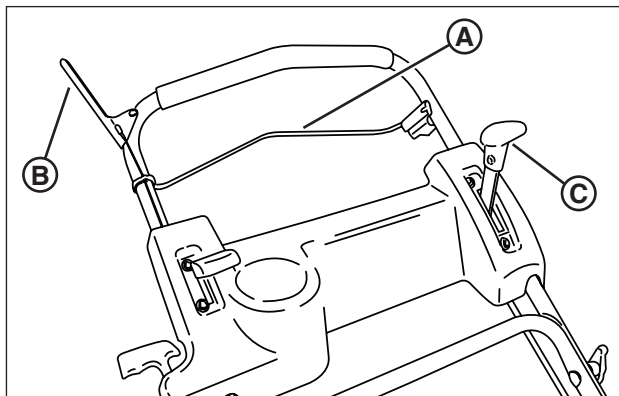

Figure 1: Mower controls
2. Check the blade control (**A, Figure 1**), drive control (**B**), and ground speed control (**C**) to insure they work freely.